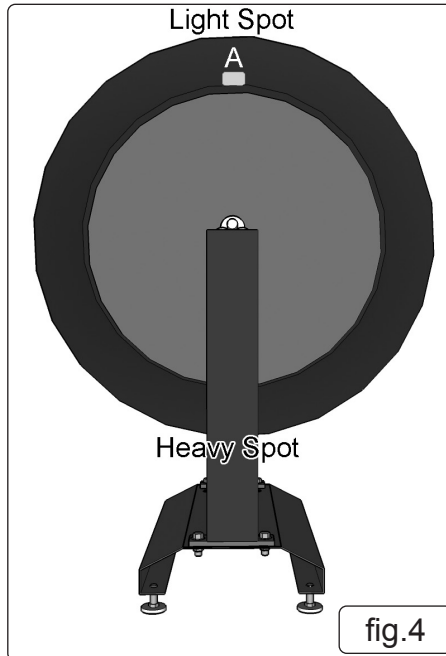

fig.4
- 5.5. Gently spin the wheel again to ensure that the heavy spot will again settle at the bottom (fig.4).